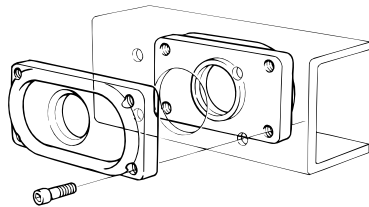

Figure 2
Fit the beam plates onto the drawbeam. The beam plate with threaded holes (8) should be placed inside the drawbeam. Torque up the bolts (dry) to 190 Nm (140 lbf.ft.). See *figure 2*.